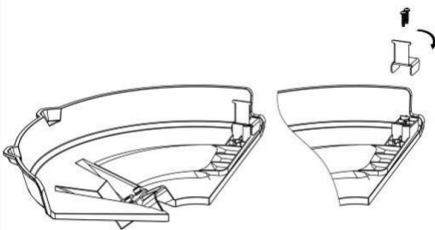
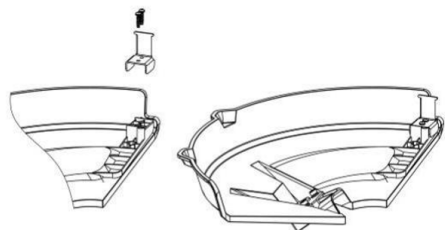

Fig. 10A
Fig. 10B
2. Remove both screws on the cut-off blade with a hex wrench. (Fig.10A)
3. Rotate the cut-off blade 180. (Fig.10A/Fig.10B)
4. Re-assemble both screws in the blade. (Fig.10B)